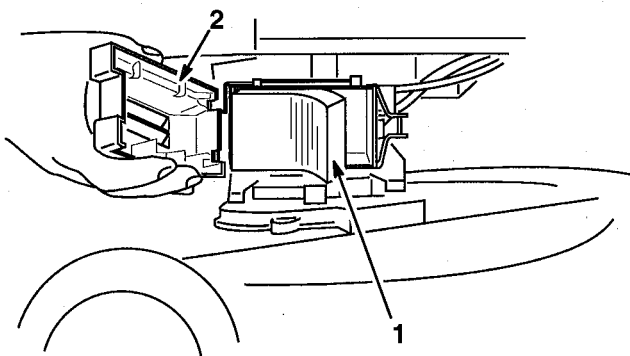

Figure 22
1. To remove air filter, snap cover latch open, swing to side and unhook (Fig. 22).